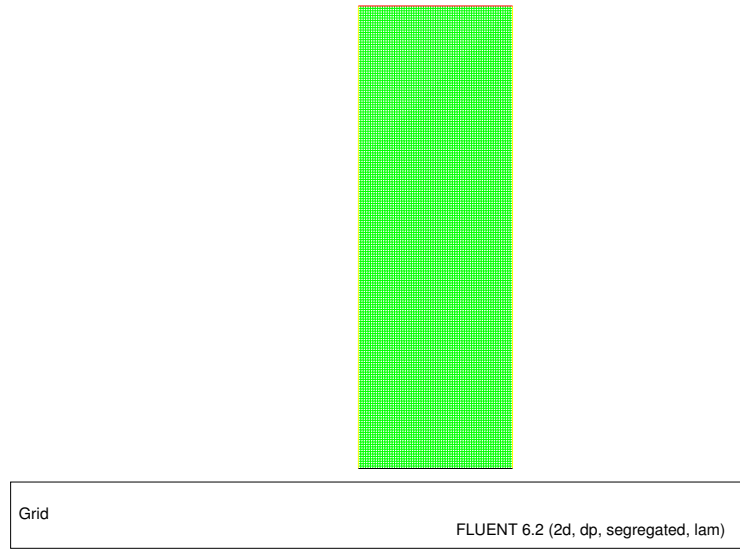

Figure 2: Grid Display
2. Check and display the grid (Figure 2).